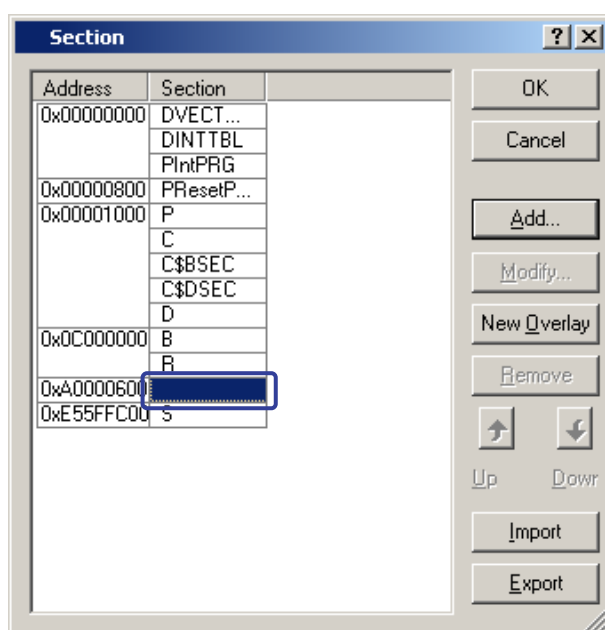

Figure 5.3.12 Section Setting (4/6)
(4) The Section address is added, and the display returns to the [Section] dialog box. Select the blank space of Section as shown in Figure 5.3.12 and click "Add...".